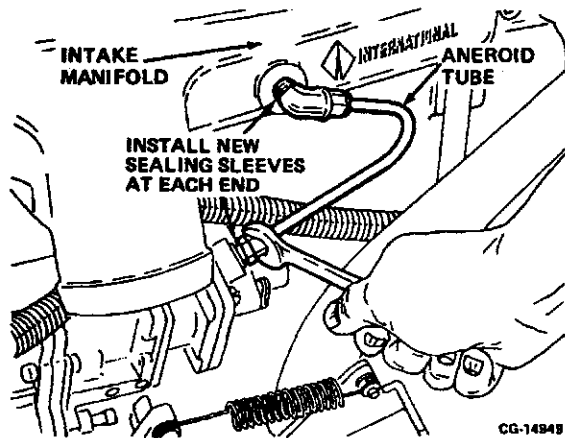

Figure 11.87. Install Aneroid Tube
- c. Tighten the connecting nuts at each end of the tube as shown in Figure 11.87.